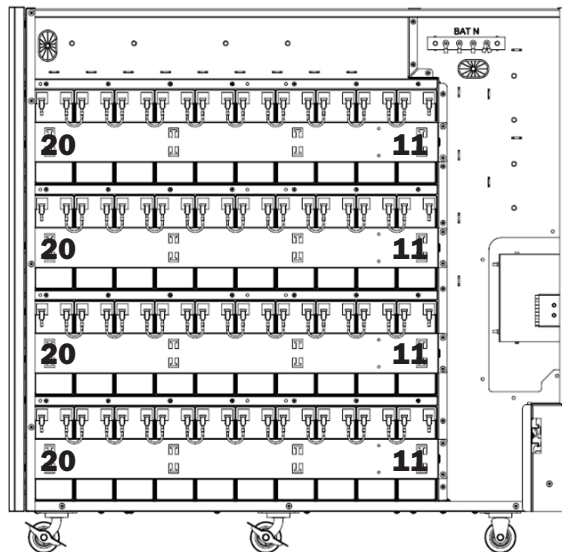

Figure 5-14B: The right side of the cabinet is the negative side of the battery strings.
18. Use 36 battery shorting/jumpers to connect the terminals of the adjacent batteries on the negative side of the battery cabinet (Figure 5-14B).